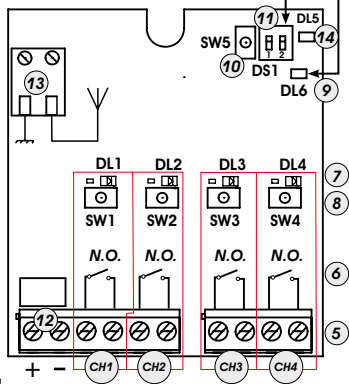

Fig.1
- 2) Press for 1 second, the push-button on the receiver (Fig. 1 ref. ⑧) relating to the channel you wish to associate with the radio control
- 3) The relevant LED on the receiver (Fig. 1 ref. ⑦) begins to flash slowly for 5 secs.
- 5) The relevant LED (Fig. 1 ref. ⑦) lights up on steady beam for 1 second and then goes OFF, indicating that storage was executed.
- 4) Press, for 1 second, the push-button on the receiver (Fig. 1 ref. ⑧) relating to the channel you wish to associate with the radio control.
- 5) The relevant LED on the receiver (Fig. 1 ref. ⑦) begins to flash slowly for 5 secs.